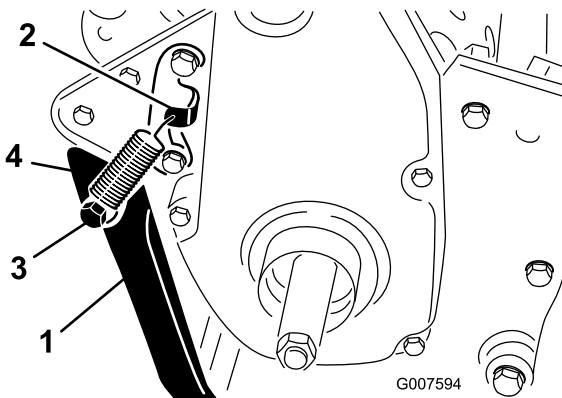

Figure 8
2. Hook the spring into the hole in the spring bracket and onto the spring stud while aligning the kickstand with the mounting holes in the rear frame (Figure 8).
3. Mount the kickstand to each side of the frame with a bolt, lock washer, spacer, flat washer, and locknut (Figure 8).